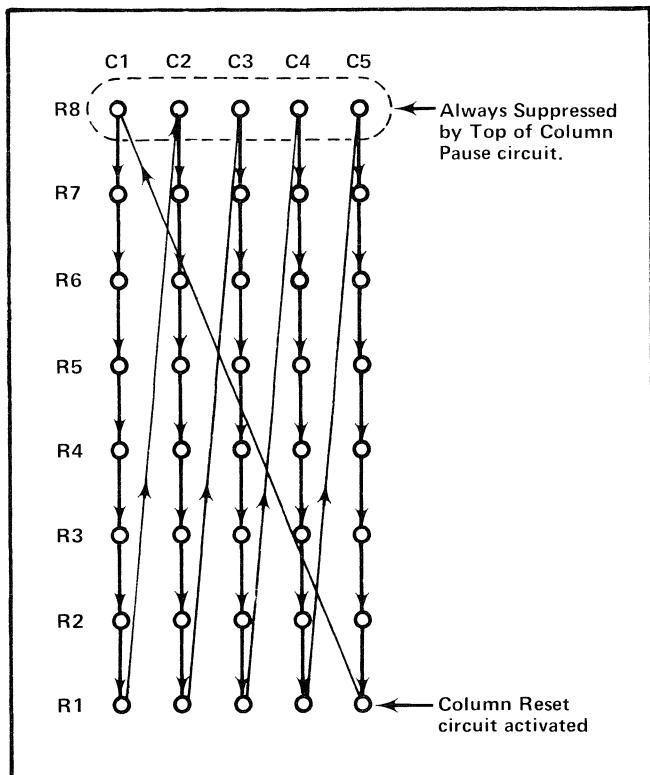

Fig. 6-6. Character Generator Matrix.
**General.** The Character Generator performs its function by cycling through a rectangular dot matrix. See Fig. 6-6. Although the matrix is formed by the coordinates of eight rows and five columns, the eighth (or upper) row is always blanked during character writing.
**Resetting the Character Generator.** When the Row Counter resets to state 0 when counting past Row 1, Column 5 (see Fig. 6-6), the low-going most significant bit of the Row Counter again causes the Top of Column pause circuit to generate the 60  $\mu$ s pause. It also causes the Column Counter to activate the CARRY signal. (The CARRY signal actually signifies a count of five from the Column Counter.) The CARRY signal inputs to the Top of Column Pause circuit to generate the RESET/SUPPRESS signal that activates the COLUMN RESET signal from the Column Reset circuit. The COLUMN RESET signal resets the Column Counter back to Column 1.